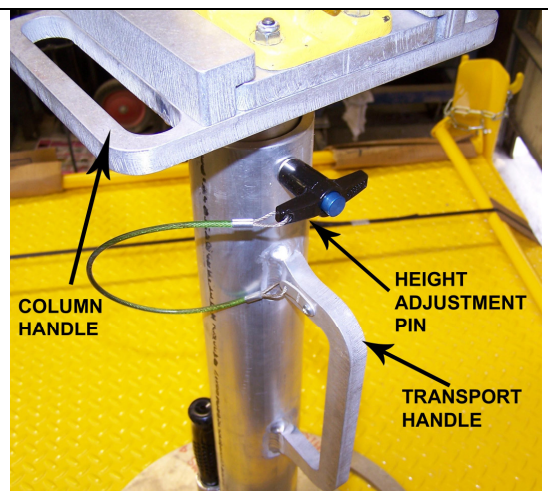

FIGURE 4
7. Firmly grasp one of the handles provided on the support column, and release the column height adjustment pin by pushing the release button and removing the pin from the holes (Figure 4).
8. Raise or lower the column as necessary to accommodate the pit depth and replace the adjustment pin. The adjustment holes are placed at 3" increments. There should be approximately 15" of clearance between the top of the retaining sleeve and the locomotive draft arm (Figure 4).